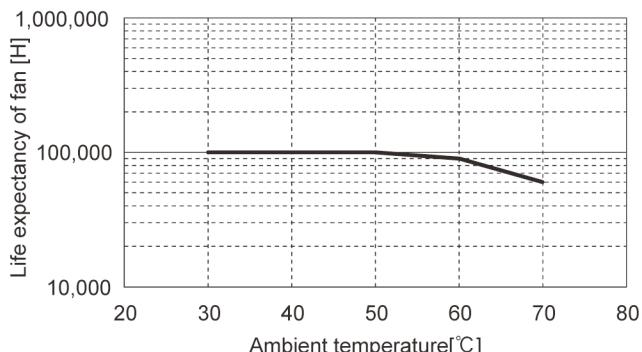

Fig.3.1 Life expectancy
■ Life expectancy (R(t)=90%) of fan depends on use conditions as shown in Fig.3.1.